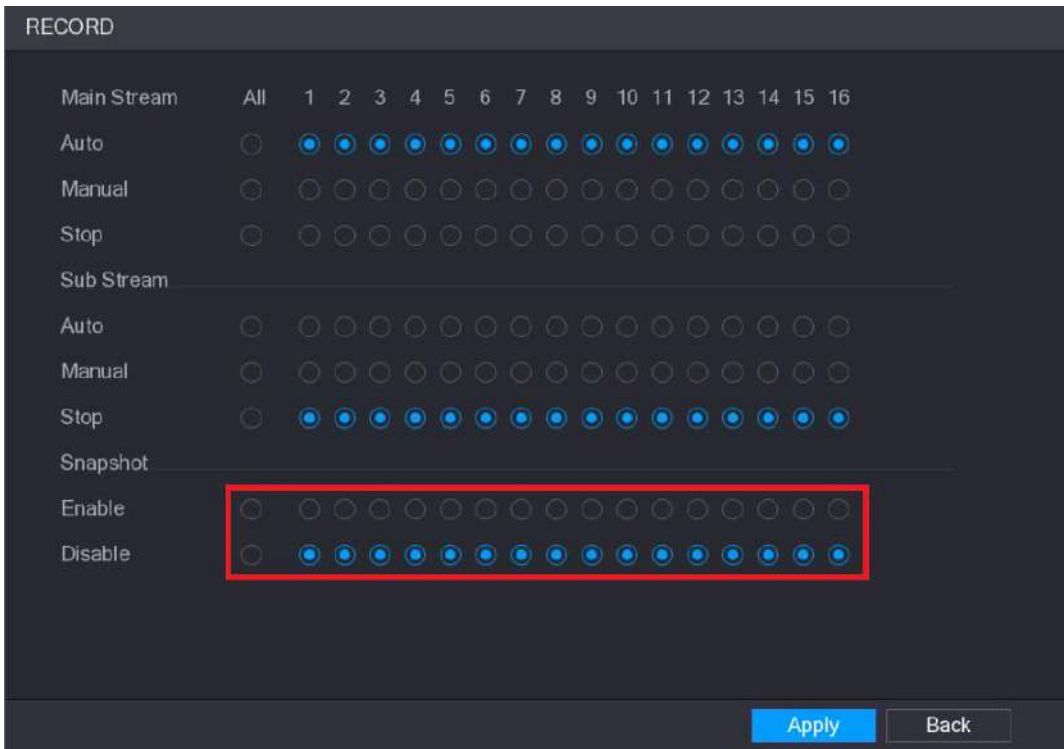

Figure 5-89
- Step 3 In the **Snapshot** area, enable the snapshot for the channels if needed. See Figure 5-89.